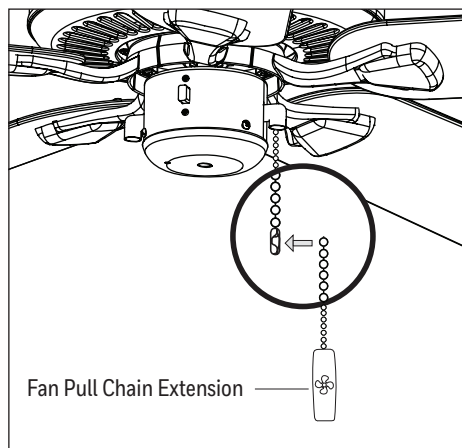

Figure 6.2
2. Attach the pull chain extension (Figure 6.2). Turn on power to fan at breaker box and the wall switch. Assembly is complete.